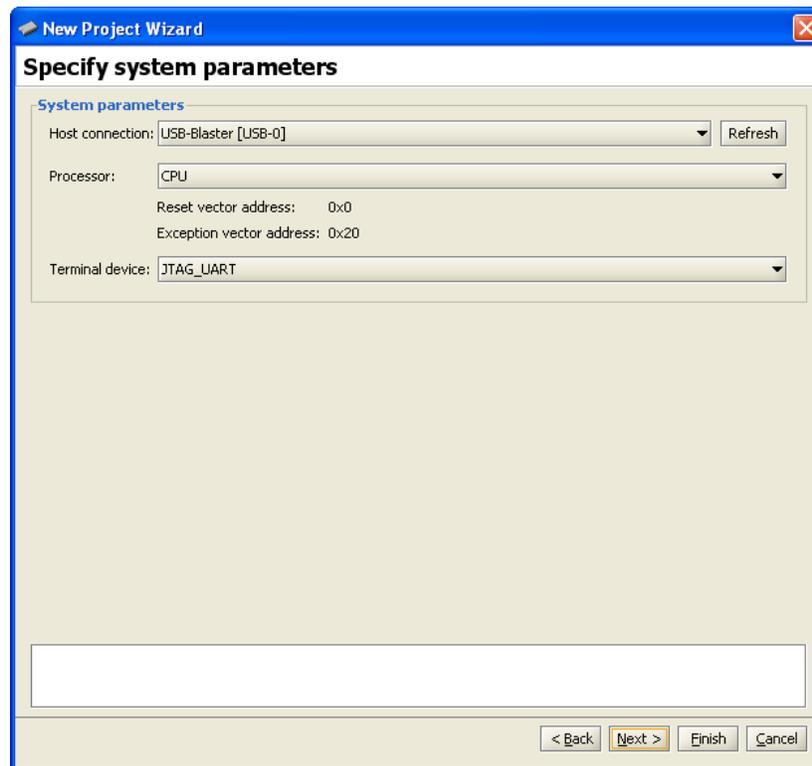

Figure 10. Specifying system settings.
- Click **Next** to advance to the window in Figure 10. This dialog is used to specify the connection to the FPGA board, the Nios II processor that should be used (some hardware systems may contain multiple processors), and the terminal device. The **Host connection** drop-down list contains the physical connection links (such as cables) that exist between the host computer and any FPGA boards connected to it. The Nios II processors available in the system are found in the **Processor** drop-down list, and all terminal devices connected to the selected processor are displayed in the **Terminal device** drop-down list. We discuss terminal devices in section 6.
For this tutorial, accept the default values that are displayed in Figure 10.